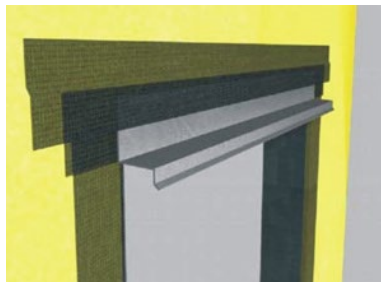

Fig. 8
- e. Cut AquaFlash Mesh to proper length [flashing plus 4 in (102 mm) extending 2 in (51 mm) beyond each end of flashing] - Figure 8.